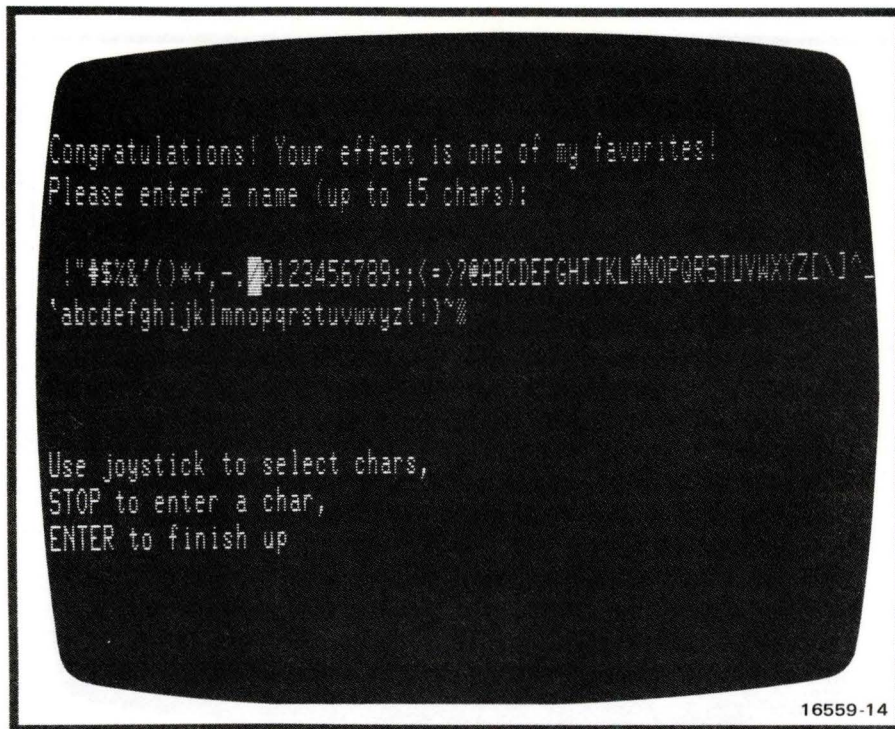

Figure 2-16. Enter Name Menu
- **enter name** brings up menu shown in Figure 2-16. Use this menu to assign names to disks before formatting or to effects before storing them on a disk.
**STEP 2** From program menu, press **MORE** and then **enter name** soft key. A menu with instructions and two rows of alphanumeric characters appears on the screen. Refer to Figure 2-16.